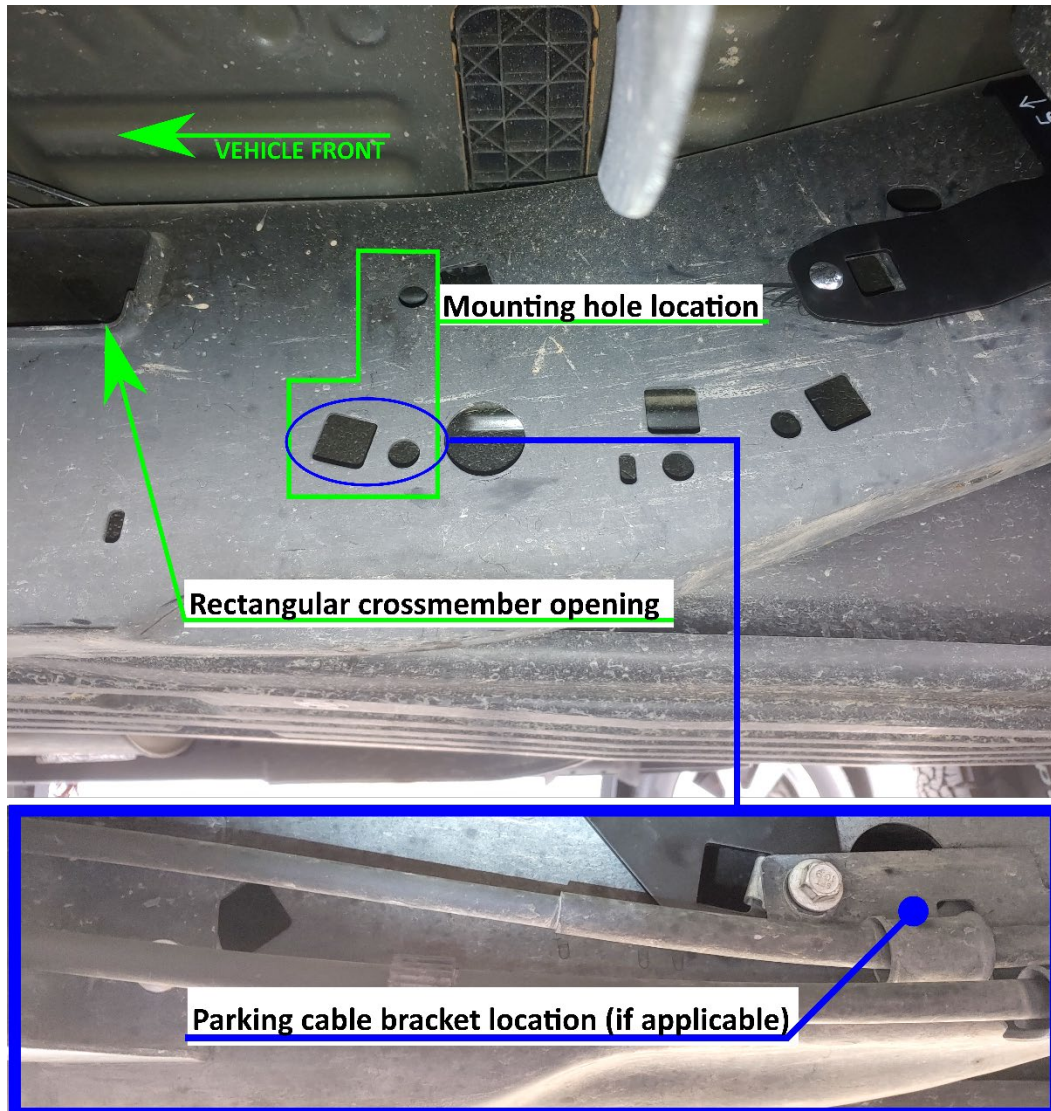

Figure 31- RAPTOR-311 Mounting Holes Location
- a. *Alternate: Slide H14 onto the frame rail lower bracket mounting point (ref. the above Figure 31 **BLUE** section) to facilitate RAPTOR-311 installation.*